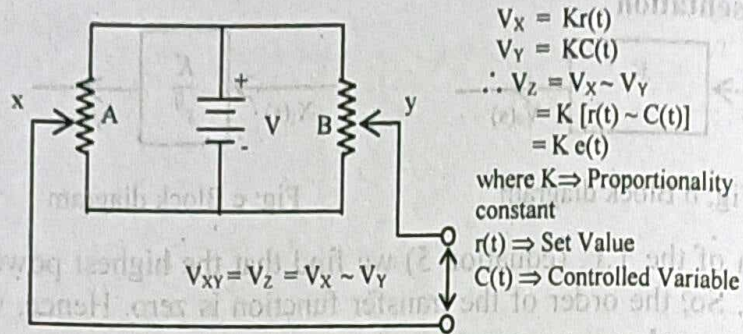

Fig: 4 Potentiometric error detector
• **Circuit Arrangement:** Fig. 4 shows the circuit arrangement of a potentiometric error detector.
Step 1: One of the potentiometers, say A, in figure 4, is used to generate reference signal through its wiper. The position of the wiper (x) corresponds to an electrical signal (V_x).